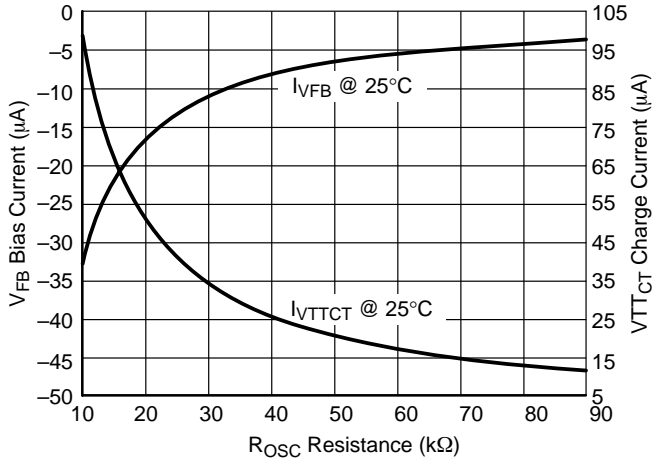

Figure 4. VFB & VTTCT Currents vs. Rosc Value
2. The  $V_{\text{FB}}$  Bias Current and VTTCT Charge Currents change with the value of  $R_{\text{OSC}}$  per Figure 4.